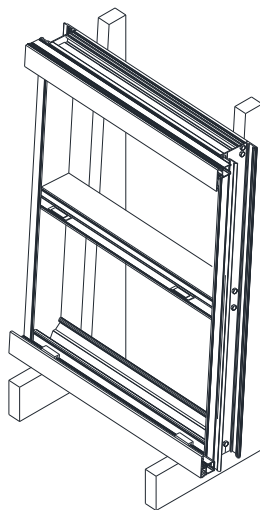

Figure 37: SSG Vertical Rack
- 12.3.14 *Figure 37* shows a panel on a vertical rack.